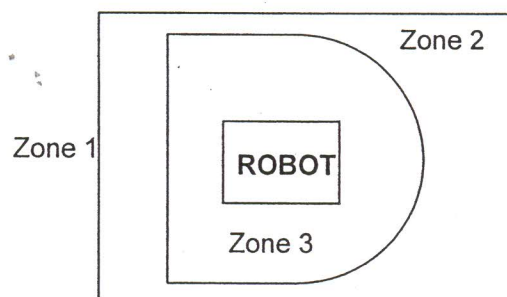

Figure 1: Safety zones
- (b) A strategy for limiting access to the areas is illustrated in **Figure 1**. The work cell is divided into zones 1 to 3. Define these 3 zones. (6 marks)